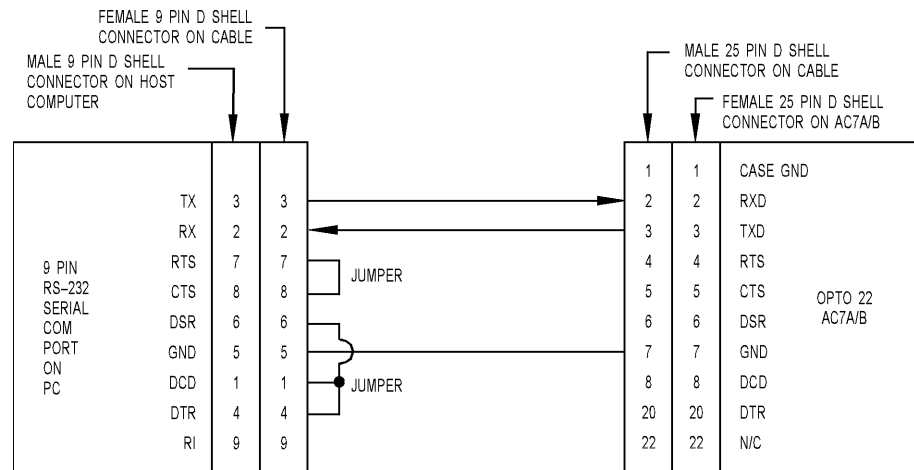

Figure 3-18: 9-Pin RS-232 Cable for AC7A/B RS-485 2-Wire Mode
- Figure 3-18 shows the proper wiring and jumper settings when using the AC7A/B with your computer’s 9-pin RS-232 port.